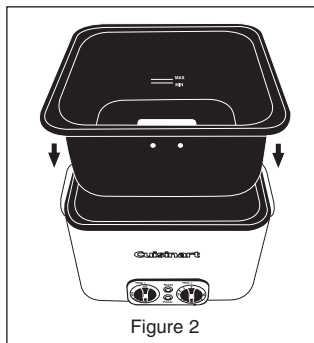
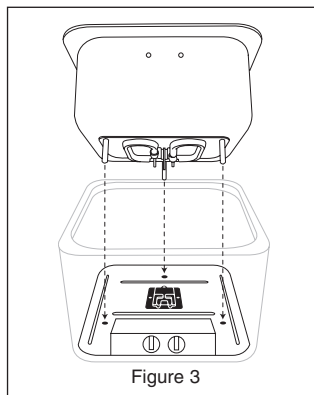

Figure 2
Figure 3
2. Insert the removable bowl with the Min/Max marker towards the rear of the fryer; basket clip in front (Fig. 2). This is the only orientation that assures the heating element joins the connector (Fig. 3).